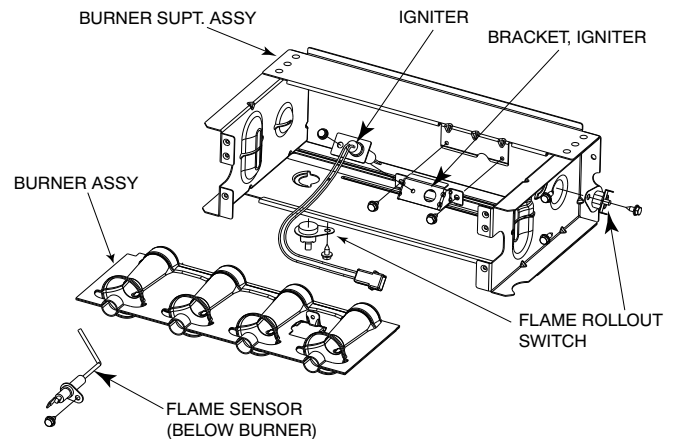
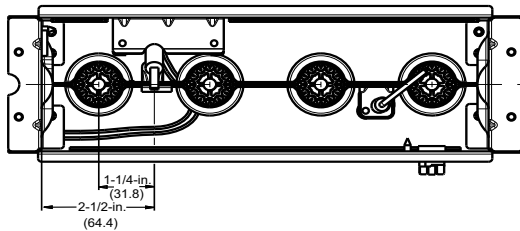
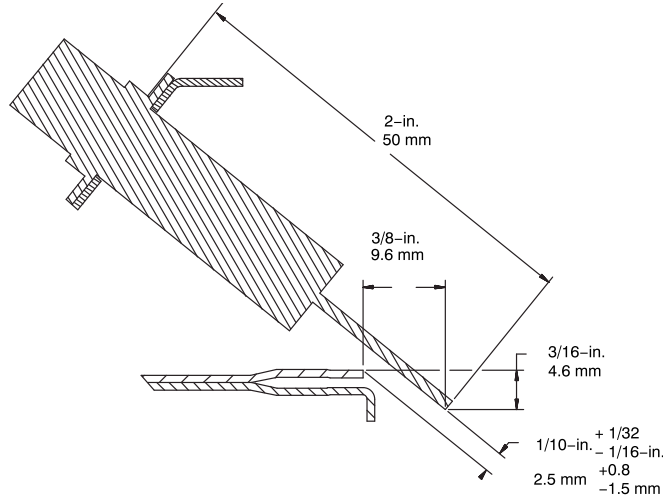

Fig. 67 – Burner Assembly
Fig. 68 – Igniter Position - Top View
Fig. 69 – Igniter Position - Side View
Refer to Fig. 67.
8. Check the igniter alignment, see Fig. 67, Fig. 68 and Fig. 69.
The igniter does **NOT** require annual inspection. Check igniter resistance before removal, see Fig. 67, Fig. 68 and Fig. 69.
- a. Using a 1/4-in. driver, remove the two screws securing the igniter mounting bracket to the burner assembly See Fig. 67.
6. To replace igniter and bracket assembly, reverse items 5a through 5d.
7. Reconnect igniter harness to the igniter, dressing the igniter wires to ensure there is no tension on the igniter itself, see Fig. 67.